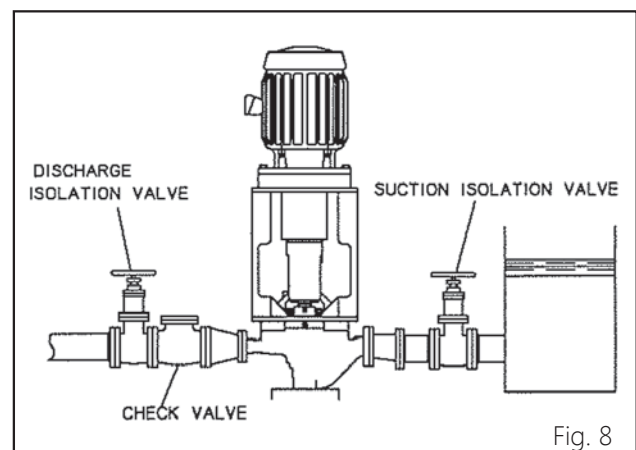

Fig. 8
1. Slowly open the suction valve (Fig. 8).